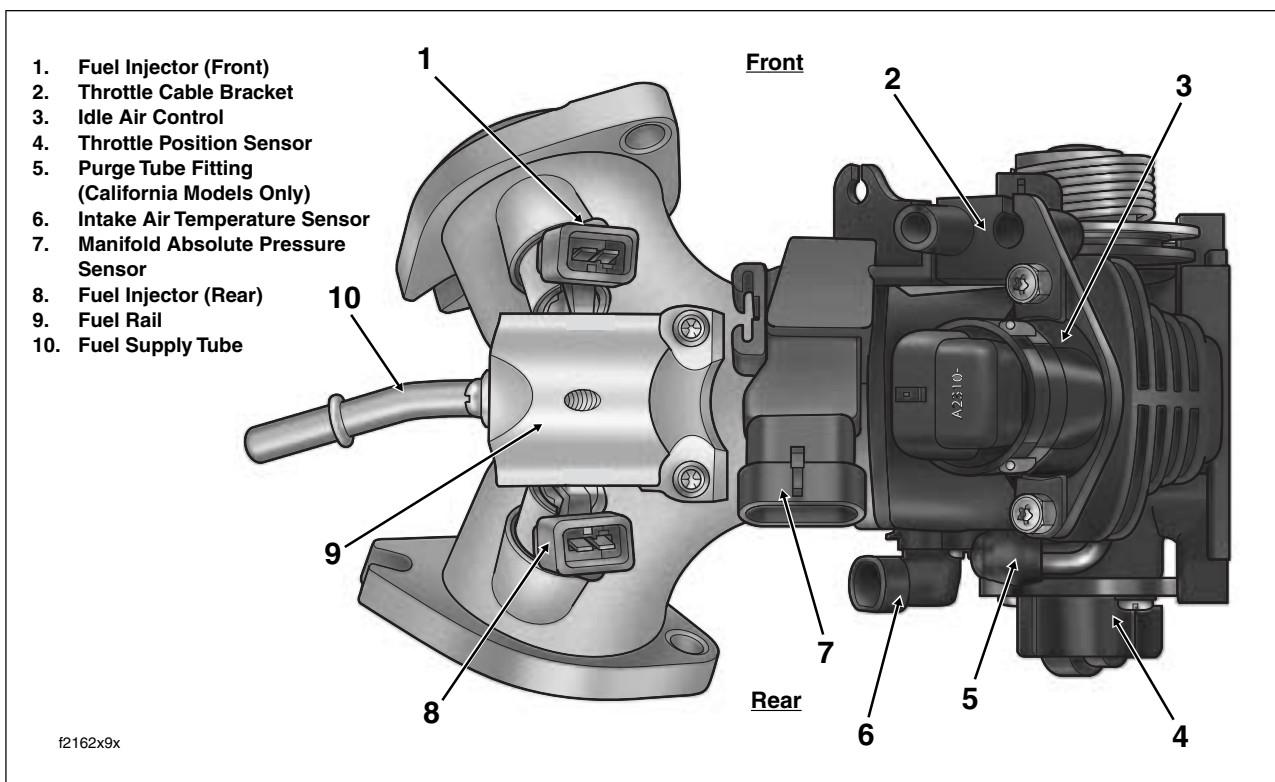

Figure 9-23. Induction Module Assembly
See Figure 9-23. The Induction Module Assembly consists of the following components:
3. Pull purge tube from fitting at top of induction module (California models only). See Figure 9-23.
3. Orientate the induction module as shown in Figure 9-23. With the counterbore facing outward, slide cylinder head flange adapters onto outlet ports of induction module. The flange adapters are not interchangeable. Look next to the slotted bolt hole for a stamp that indicates F(front) and R(ear) cylinder.
17. Connect purge tube to fitting at top of induction module (California models only). See Figure 9-23.